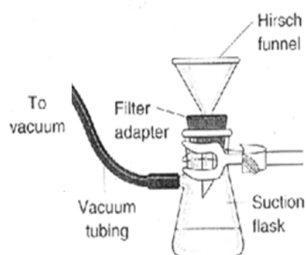

Figure 4: Vacuum filtration system.
19. Assemble a vacuum filtration apparatus (as shown in Fig. 4) using the 250 ml filter flask, the 3.0 cm Hirsch funnel and the 3.0 cm filter paper. (These items should be in the common drawer.) Clamp the flask to a ringstand. Place the funnel on top of the flask. Make sure the seal is tight. Place the filter paper on the funnel. Seal the paper with a small amount of cold solvent. Make sure all of the holes in the funnel are covered by the filter paper and the edges are not curling up. Before connecting the hose to the flask, test the vacuum by attaching the hose to the vacuum and placing your thumb over the hole on the other end of the tube and turning the vacuum up until you can feel it. Once the vacuum is working, attach the hose to the flask. Seal the filter paper again using the cold distilled water.